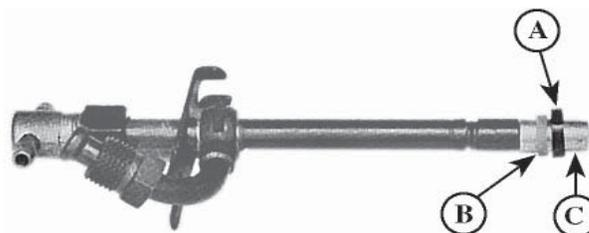

Figure 13
- a. Position JD258 (ROS16477) Pilot Tool (Figure 13-C) over nozzle tip. If Pilot Tool (included in cleaning kit) is not available, use a No. 16189 Nozzle Protector Cap found on every new or re-placement nozzle.
- b. Position a new carbon stop seal (Figure 13-B) on pilot tool. Use a new seal washer (Figure 13-A) to help slide the carbon seal into place until it seats in its groove on nozzle body.